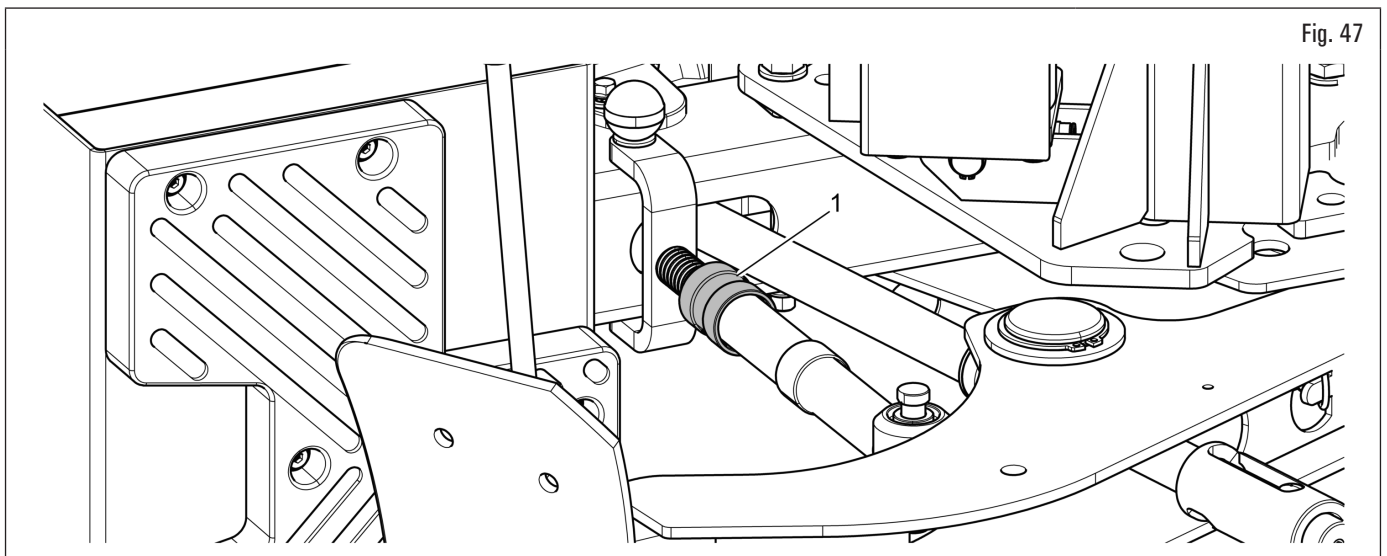

Fig. 47
2. adjust the travel of the bead breaker stroke limiter by acting on its adjustment ring nut (Fig. 47 ref. 1), so that the shovel can penetrate beyond the edge of the rim for a height equal to the height of a wedge of the bead press extension;